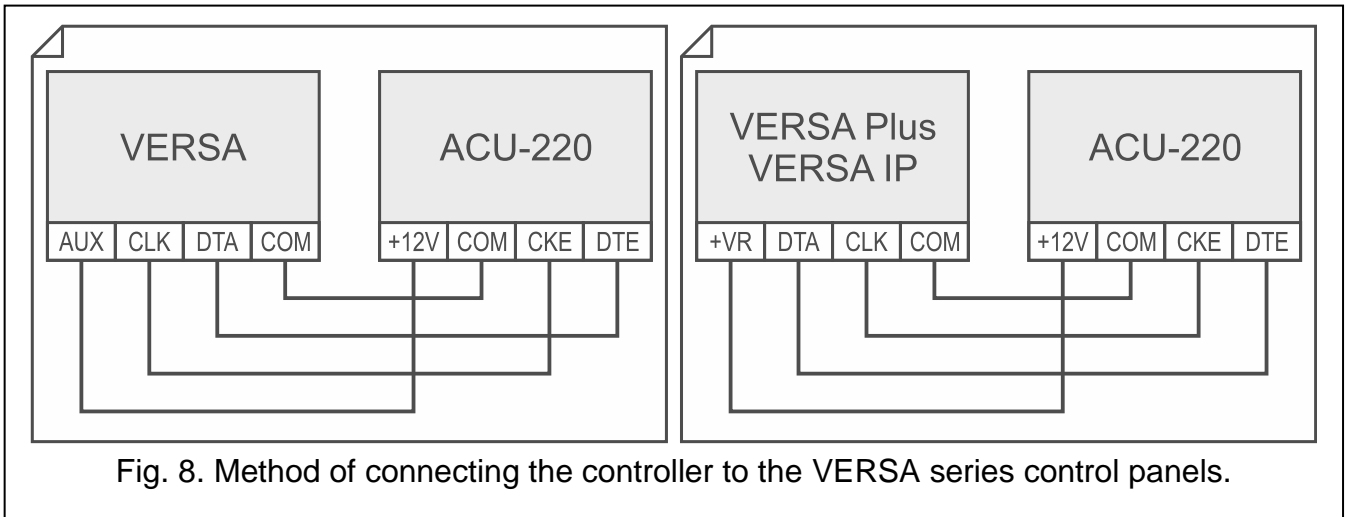

Fig. 8. Method of connecting the controller to the VERSA series control panels.
**VERSA:** connect the CKE, DTE and COM terminals to the corresponding terminals of the control panel communication bus (Fig. 8).